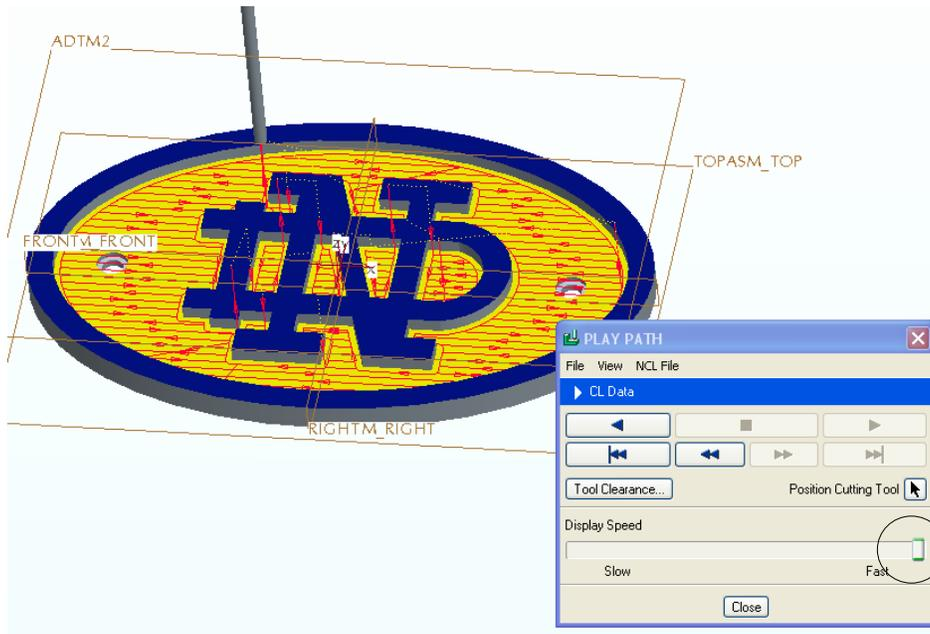

Fig 7: Screen Play of toolpath
Step 15: Select **PLAY PATH >> SCREEN PLAY** (Figure 7).